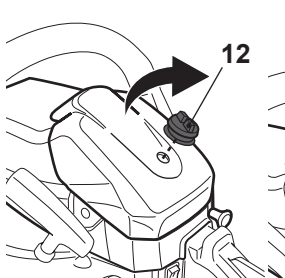

Fig. 53
- > Loosen the fixing screw (12) and remove the air filter cover (13) (Figs. 53, 54).